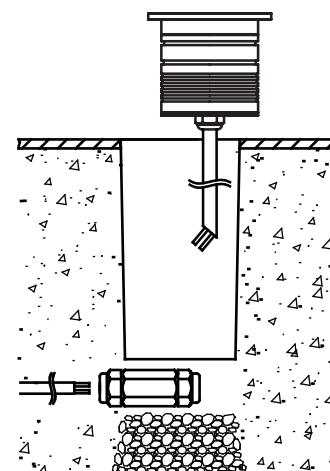

Fig 2.3
- 2.3 Connect the light fitting cable to the junction box. (See Fig 2.3)